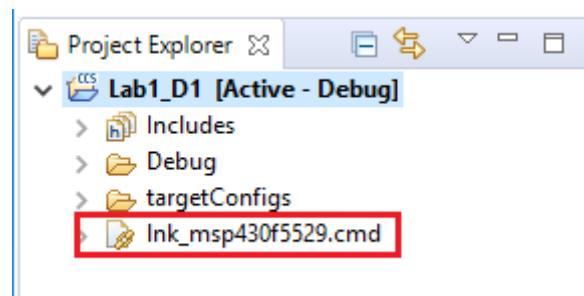

Figure 4 Project Explorer
Step 5. Click <Finish>. The Project Explorer will show where all the project files are. Note that there are no source code files because we created an Empty Project (Figure 4).